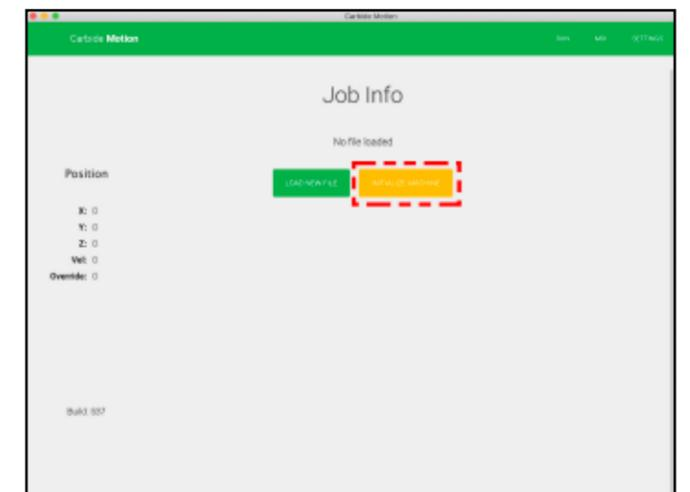

Figure 10-4
1. Click the yellow **Initialize Machine** button to home your Shapeoko Pro XL. See Fig. 10-4.